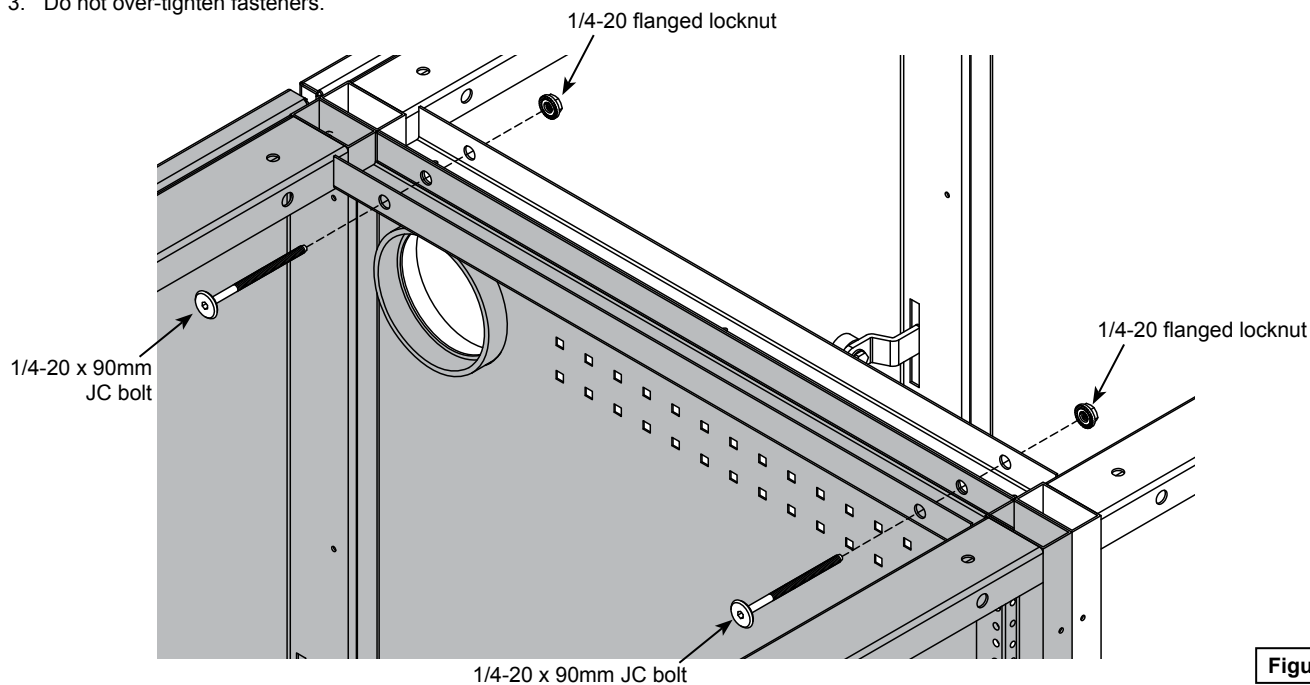

Figure 5
1. Place the two equipment racks together as shown. **Figure 5.**
2. Install (2) 1/4-20 x 90mm JC bolts and (2) 1/4-20 flanged locknuts.